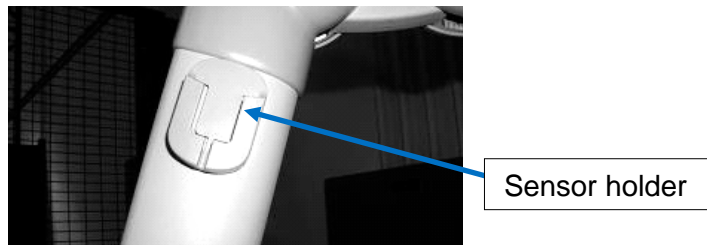

Figure 19: Attaching the Sensor Holder to the Articulating Arm
1. Attach the sensor holder to the Articulating Arm by peeling off the tab and exposing the sticky tape as shown on Figure 19.